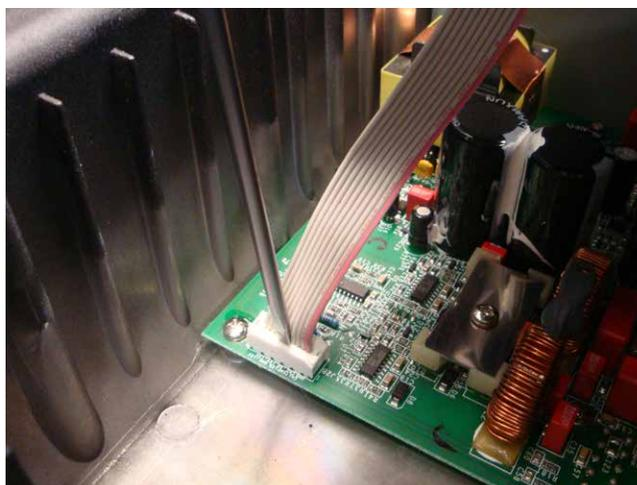

Figure 7.2 - Put pressure on the white housing to release the ribbon cable
3. To release the ribbon cable, press down on the white housing of connector J2B (see Figure 7.2).